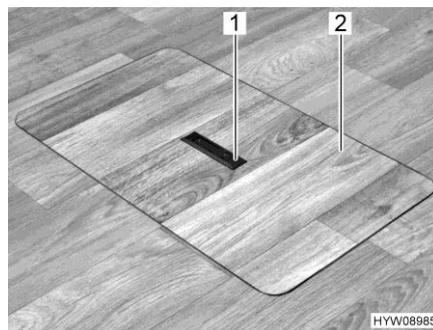
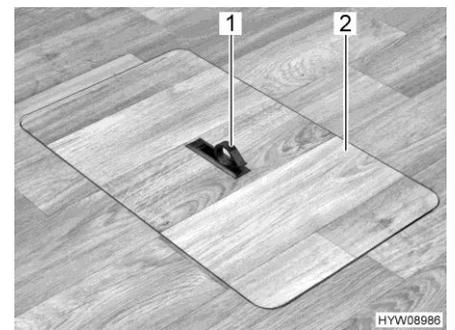

Fig. 78 Floor storage compartment cover (handle recessed)
Fig. 79 Floor storage compartment cover (handle swung out)
- Push one side of the grip plate (Fig. 78,1) downwards. The handle (Fig. 79,1) swivels upwards.
- Remove the cover (Fig. 79,2) upwards.
- Insert the cover (Fig. 79,2) in the frame on the floor.